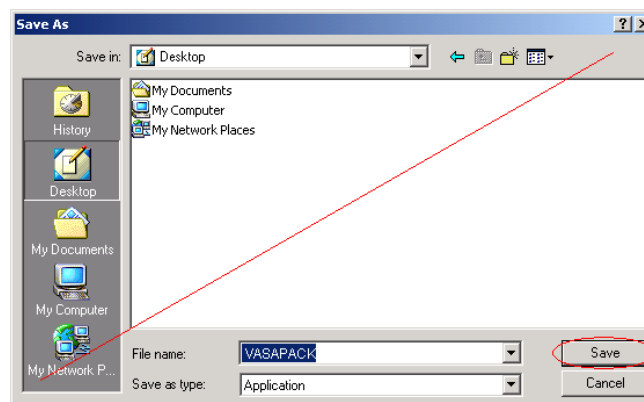

Figure 5: Click on Save to save the file
Step 5: Click once on the **Save** button in the lower right corner of the window as shown in figure 5.